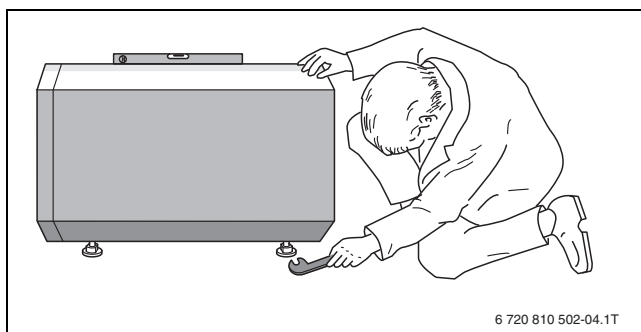

Fig. 9 Leveling the DHW tank (illustrative)
- ▶ By turning the adjustable feet, incline the tank slightly toward the back (→ Fig. 9).